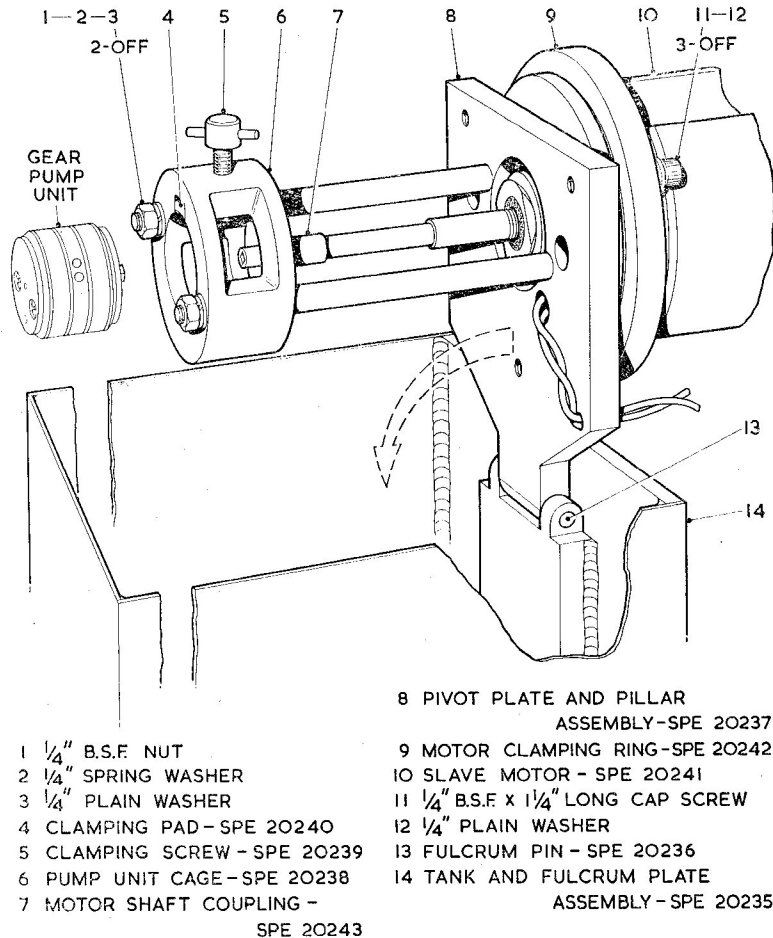

Fig. 20. Gear pump unit, running-in- rig
Running-in the gear pump unit (fig. 20)
29. Insert the gear pump unit into the cage of the rig shown in fig. 20 ensuring that the squared end of the central gear engages the squared hole on the slave motor shaft coupling.